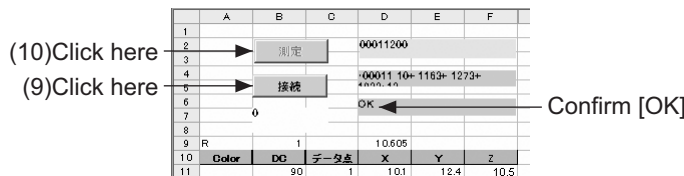

Fig.3
- (7) Click [DisConnect] in the PSA menu to disconnect the connection.
- (8) Put the CL200 at 40cm away from the projector lens surface (Screen center) and turn the CL200 to ON.
- (9) Open the Gamma adjustment file and click [CONNECT] in the [DC] sheet.
- (10) Click [MEASURE] when [OK] is shown. Refer to Fig.3.